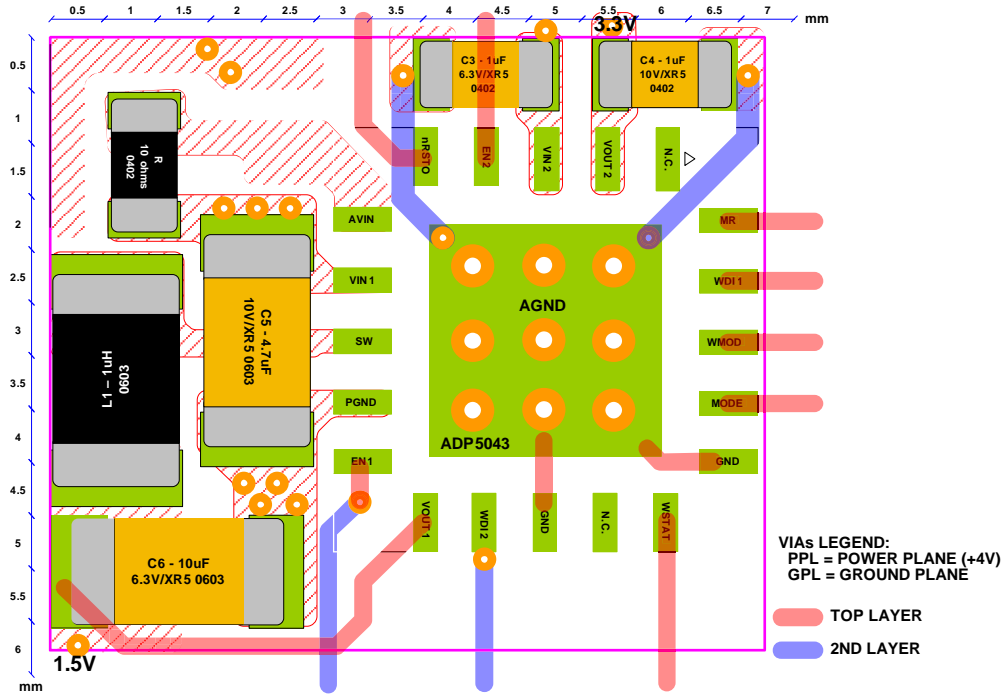

Figure 55. Layout
The typical θ_{JA} value for the 20-lead, 4 mm × 4 mm LFCSP is 38°C/W, see Table 7. A very important factor to consider is that θ_{JA} is based on a four-layer 4" × 3", 2.5 oz copper, as per Jeduc standard, and real applications may use different sizes and layers. It is important to maximize the copper used to remove the heat from the device, and copper exposed to air dissipates heat better than copper used in the inner layers. The thermal pad (TP) should be connected to the ground plane with several vias as shown in Figure 55.